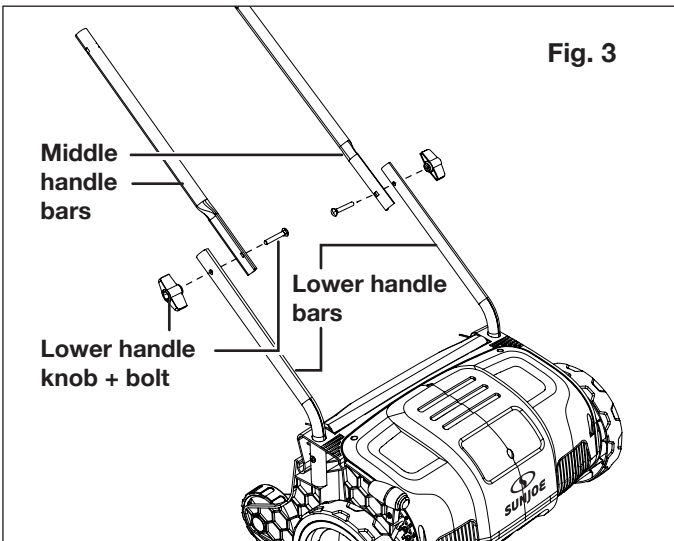

Fig. 3
2. Secure the two middle handle bars to the lower handle bars using the first set of knobs and bolts. Tighten the knobs on each side to ensure a secure fit (Fig. 3).